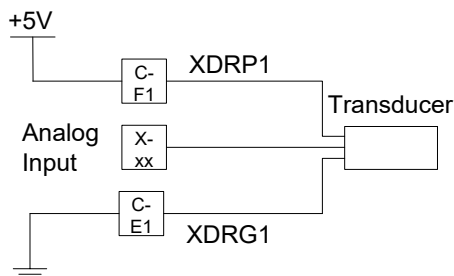

Figure 3-8. Transducer Output Power Wiring Diagram
The PCM112 control provides three independent +5 V (DC) transducer power sources for powering external transducers. The transducer power outputs are protected against over-voltage, over-temperature, short circuits, and reverse power. Figure 3-8 shows a typical connection of the transducer output powering a transducer, with the transducer signal feeding back to an analog input on the PCM112 control.